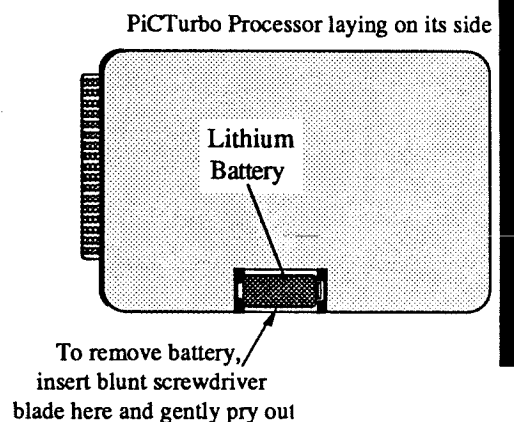

Figure 4-3 PiCTurbo Processor Battery Location
3. Lay the PiCTurbo Processor down on a non-conductive surface so that the battery is facing up (see Figure 4-3)